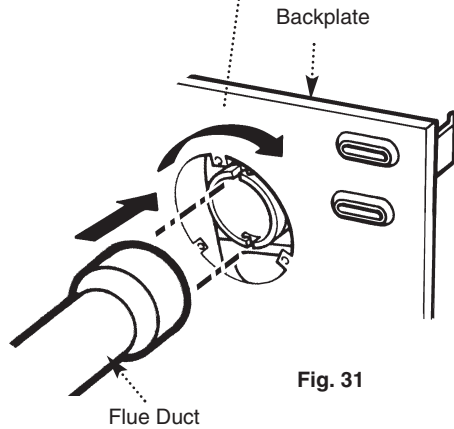

Fig. 31
3. Locate the flared end of the flue duct over the bayonet fitting on the turret, taking care not to damage the 'O' ring. Lock the flue duct in place by pressing in and turning clockwise (Fig. 31).